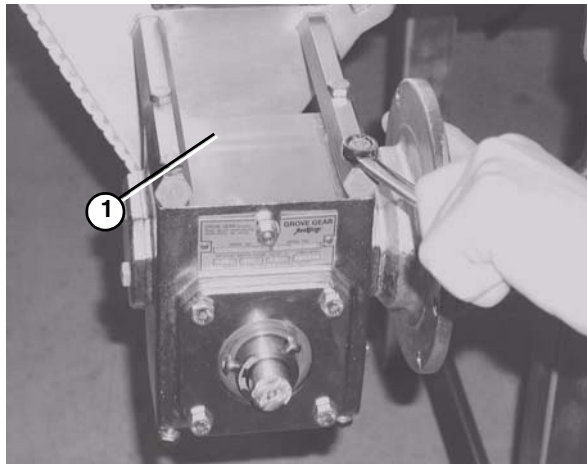

Figure 57
4. Unbolt the gear head and slide it off the drive spindle (**Figure 57**).